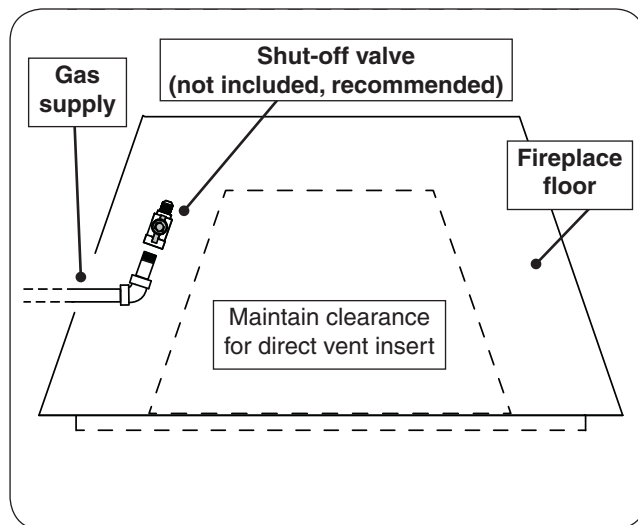

Fig. 23-1 Plumb gas supply
2. It is recommended that a gas shut-off valve (not included) be attached to the gas supply stub. Use a pipe compound resistant to all gasses. See Fig 23-1.